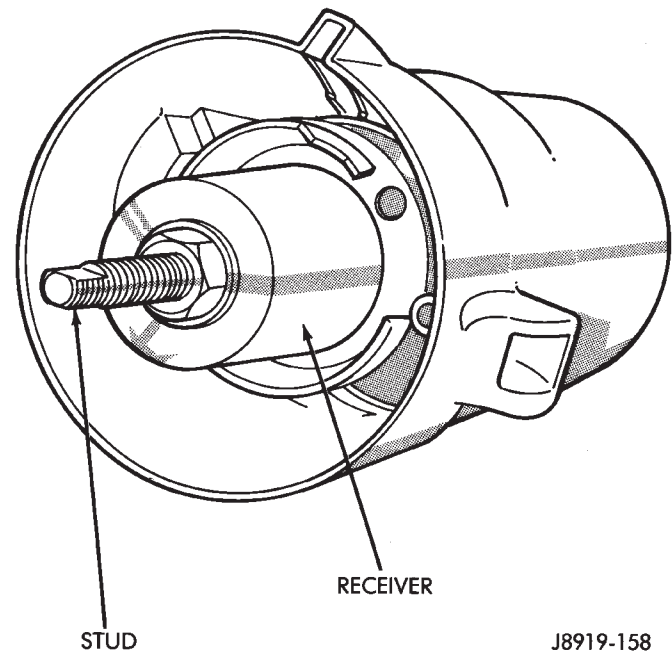

Fig. 22 Shift Tube Installation
(6) Remove the nut and place the receiver installation tool over the stud (Fig. 22).
(7) Install the nut and tighten it to force the shift tube into the shift bowl (Fig. 22).